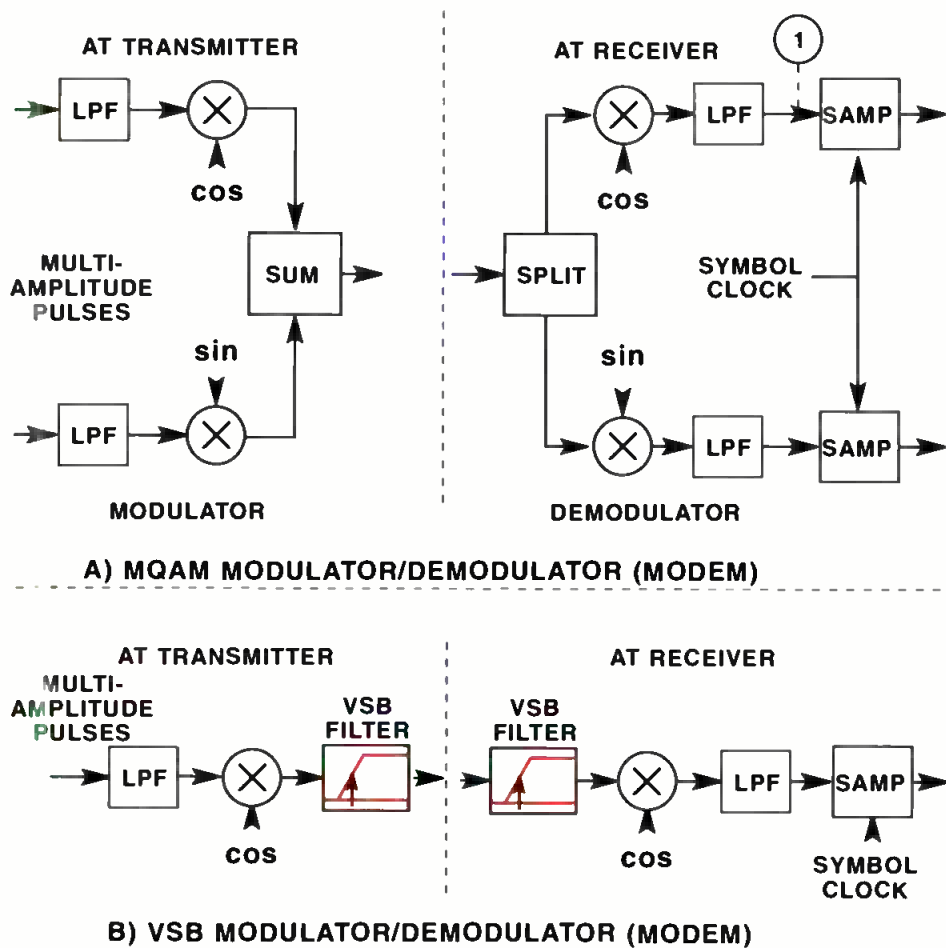
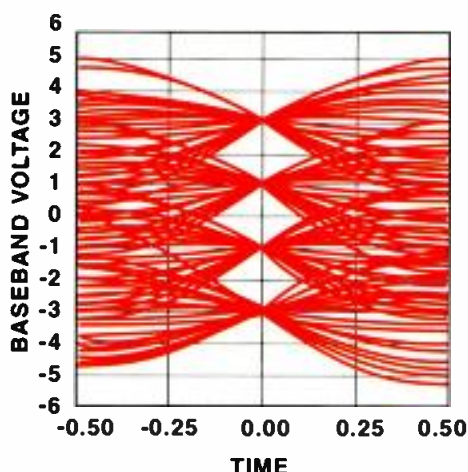

Figure 3. MQAM and VSB modems with spectral shaping low-pass filters.
Figure 4. A 4-level eye pattern.
The addition of filtering to the baseband digital bitstream, as shown in Figure 3(a) and Figure 3(b), prevents interference with adjacent TV channels. But this must be done in a special way.
Referring to Figure 3, a received baseband signal at point (1) drives an oscilloscope vertical deflection input while the horizontal sweep rate is locked to the symbol rate clock. The scope displays a picture, as illustrated in Figure 4.
In Figure 4, 4-level amplitude pulses are used on the monitored modem. The point in the center of the eye pattern where the four levels become sharply defined represents the periodically recurring symbol time at which the baseband signal should be sampled and decisions made on which of the four amplitude levels was transmitted. The sharp definition of the levels results from the absence of any intersymbol interference at this ideal sampling time with Nyquist filters.